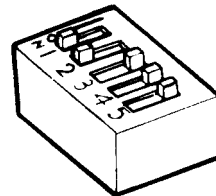

Fig. 2--Standard Switch Positions
1.08 The option switches on the logic circuit card are factory optioned and should not be changed unless the local engineering requirements specify incorporating a nonstandard option (Fig. 2).